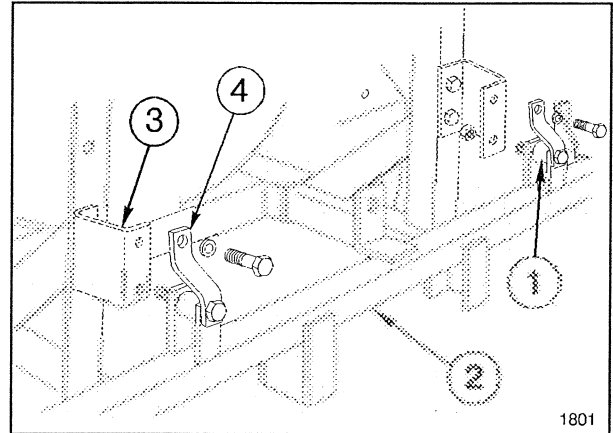

**FIG. 4**
6. Install the Control Valve Assembly to the Valve Mounting Bar with three (3) 5/16" hex head cap screws. (See FIG. 4)